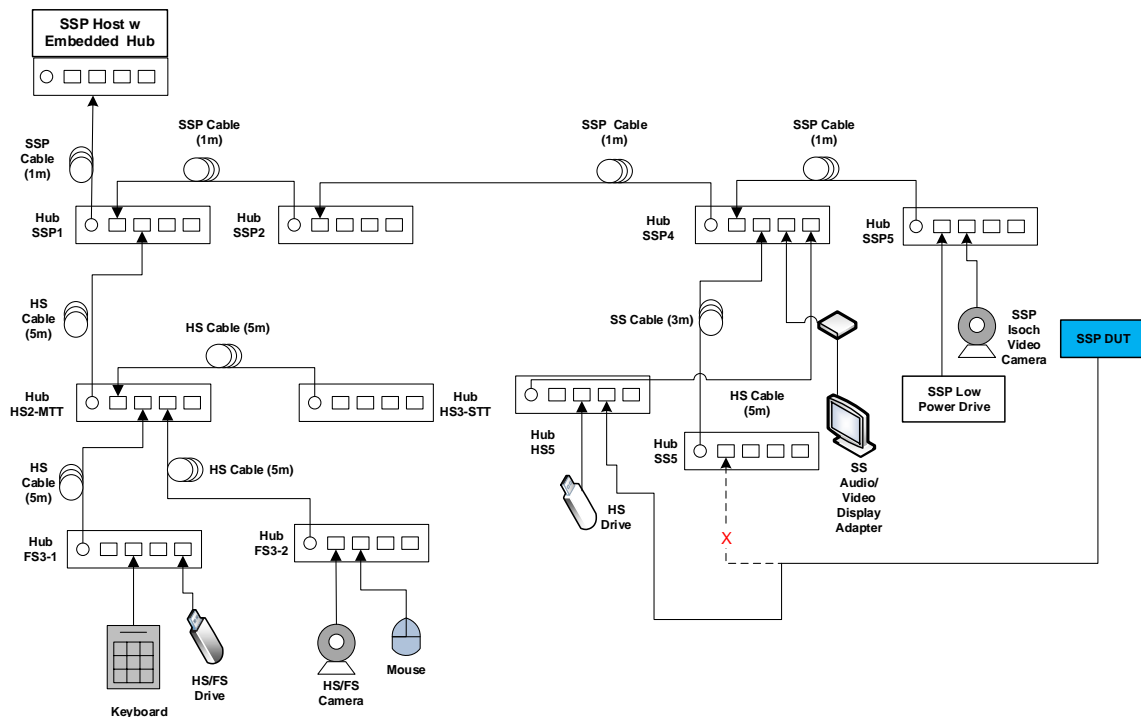

Figure 2-6: Topology Change 2 (embedded hub)
- While operating the devices, attach the Device Under Test to port 3 on Hub HS5 as shown below in Figure 2-5 and Figure 2-6.